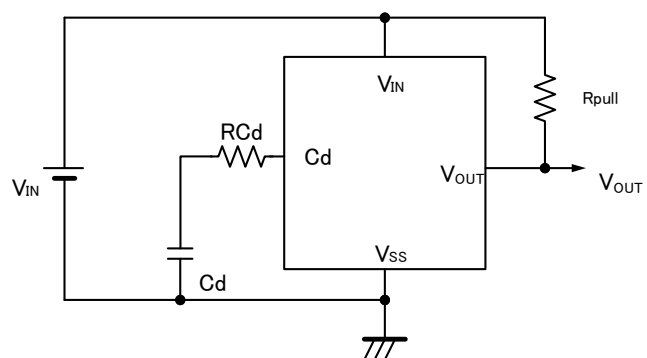

Figure 4: Circuit example with a resistor connected to the Cd pin
- To place a resistance (RC_d) of 500 Ω to 1k Ω between the Cd and Cd pin. (See Figure 4)